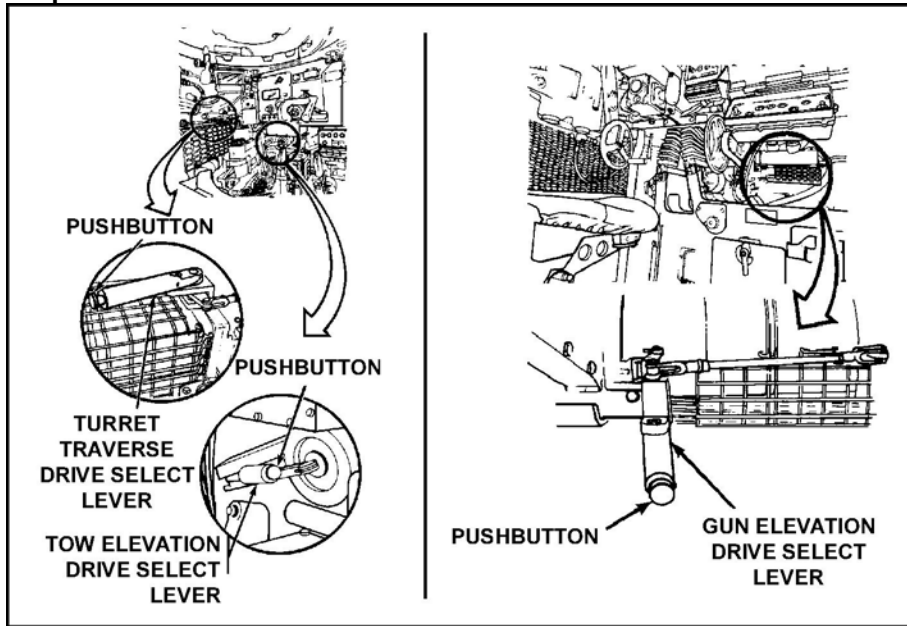

Figure 1. Select levers.
7. Move the gun elevation drive select lever to the POWER position (Figure 1).